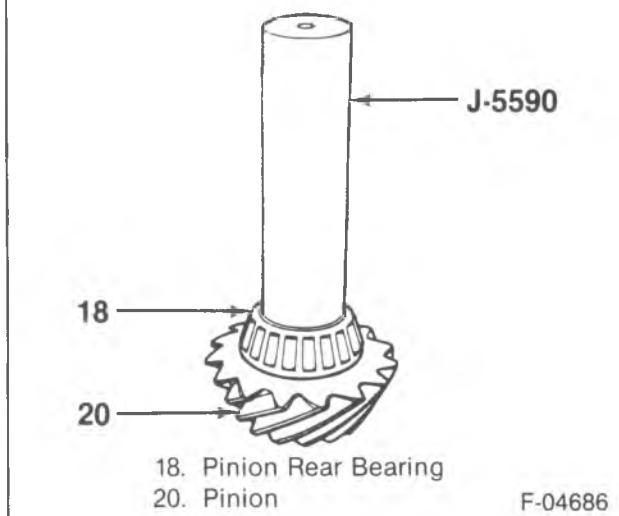

Figure 14—Pinion Inner Bearing Installation
- 1. The pinion inner bearing (18) using J 5590 (figure 14).